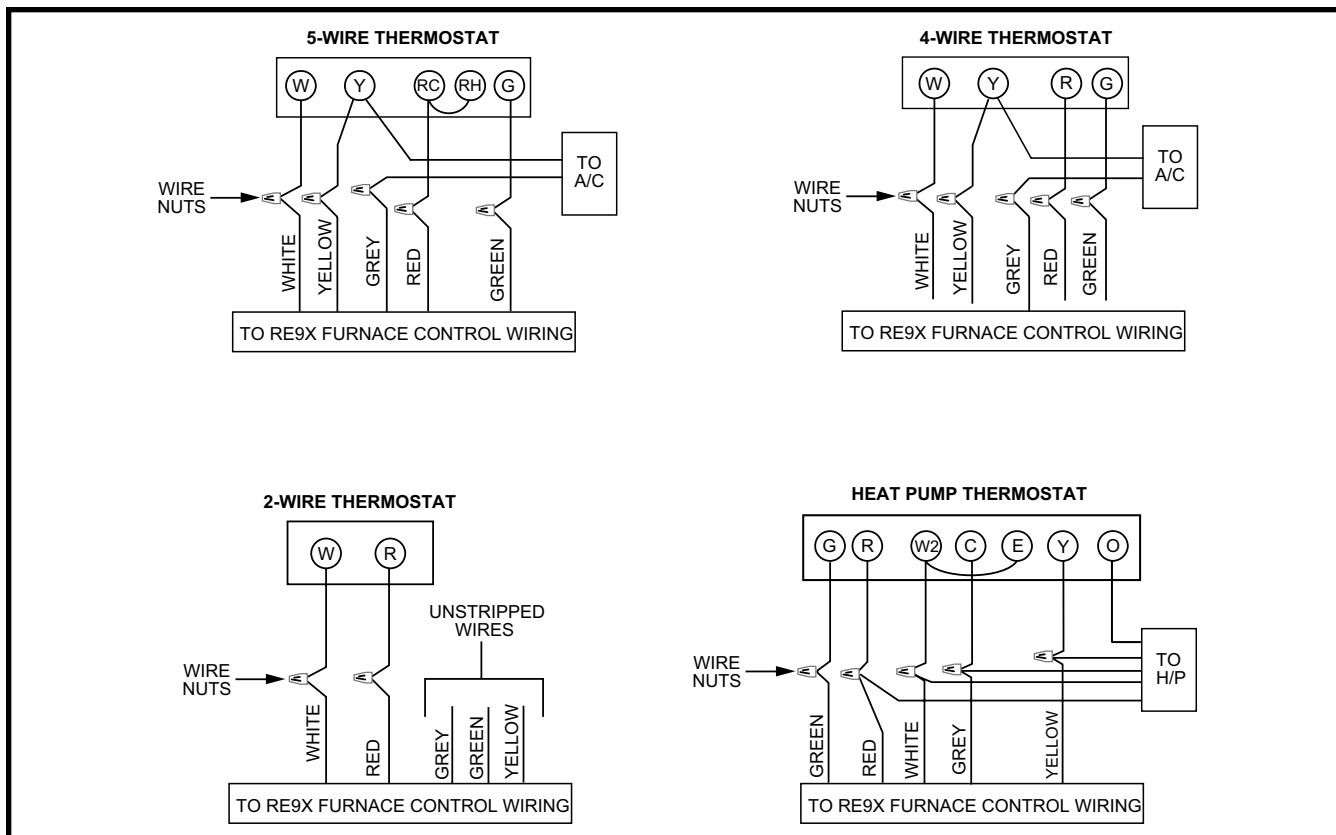

Figure 22. RE9X Thermostat Connection
- The thermostat should be mounted about 5 feet above the floor on an inside wall. DO NOT install the thermostat on an outside wall or any other location where its operation may be adversely affected by radiant heat from fireplaces, sunlight, or lighting fixtures, and convective heat from warm air registers or electrical appliances. Refer to the thermostat manufacturer's instruction sheet for detailed mounting information. See Figure 22 (page 18) for typical thermostat connections.
NOTE: Installation of a five-wire thermostat circuit is recommended for future addition of a heat/cool thermostat. See Figure 22 \(page 18\) for various RE9X thermostat connections.